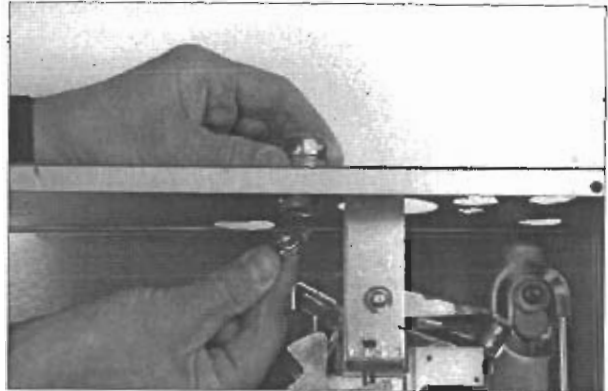

FIGURE 80
- 1. Starting at the ANSUL AUTOMAN Release, connect the conduit connector using the supplied nut. Use only ANSUL conduit fittings, Part No. 55813. See Figure 80.